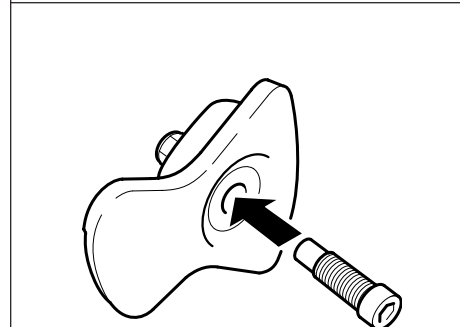

Fig. 3
- Insert the locking bolt into the rim specific insert. (Fig. 3)
**Fixed ball** - Loop the cable around the neck of the towball. If you fit the cable like this, use a single loop only. (See Figs. 3 and 4).